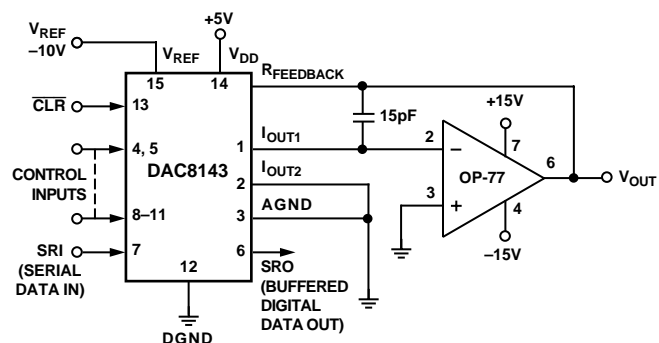

Figure 16. Unipolar Operation with High Accuracy Op Amp (2-Quadrant)
1. Phase compensation (see Figures 16 and 17).
The circuit shown in Figures 16 and 17 may be used with an ac or dc reference voltage. The circuit's output will range between 0 V and +10(4095/4096) V depending upon the digital input code. The relationship between the digital input and the analog output is shown in Table II. The V_{REF} voltage range is the maximum input voltage range of the op amp or ± 25 V, whichever is lowest.
¹Nominal full scale for the circuits of Figures 16 and 17 is given by
²Nominal LSB magnitude for the circuits of Figures 16 and 17 is given by
The transfer function for the DAC8143 connect in the multiplying mode as shown in Figures 16 and 17 is:
In most applications, linearity depends on the potential of I_{OUT1}, I_{OUT2}, and AGND (Pins 1, 2 and 3) being exactly equal to each other. In most applications, the DAC is connected to an external op amp with its noninverting input tied to ground (see Figures 16 and 17). The amplifier selected should have a low input bias current and low drift over temperature. The amplifier's input offset voltage should be nulled to less than $\pm 200\ \mu\text{V}$ (less than 10% of 1 LSB).